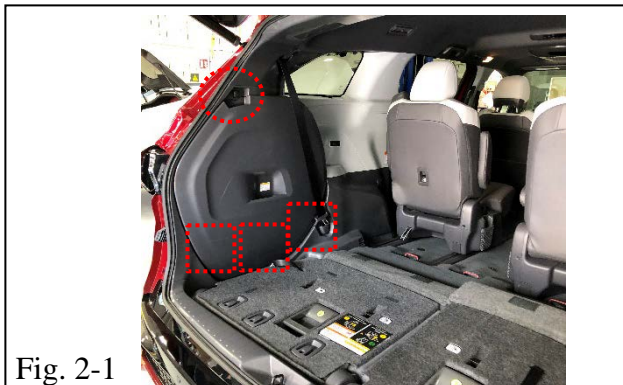

Fig. 2-1
- (a) Locate left rear wheel well and remove spare tire panel (Fig. 2-1).